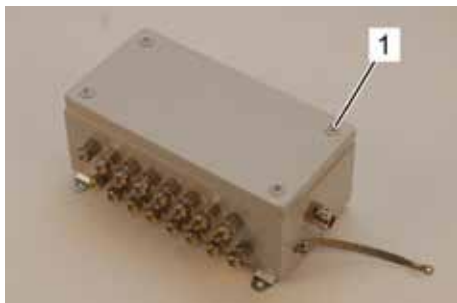

Fig. 56: Screws on the Terminal box
3. Loosen the screws on the Terminal box (Fig. 56/1) and open it.